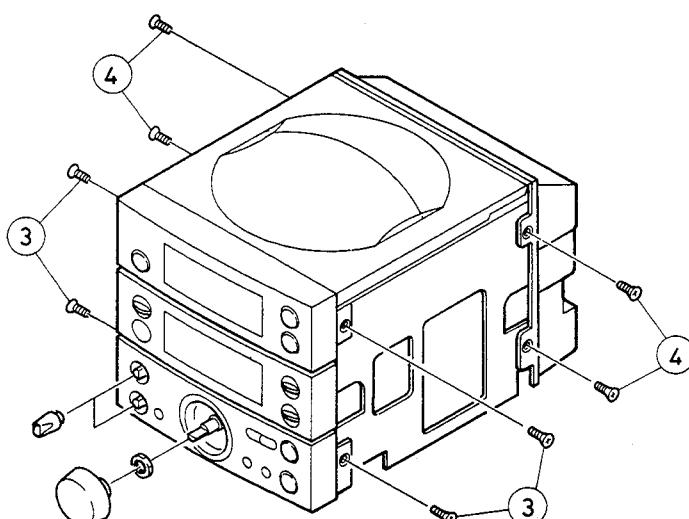

Fig. 7-2
2. Pull out three knobs of the sound volume control and the tone quality controls (treble and bass). (Fig. 7-2)
3. Remove four screws ③ retaining the front panel.
4. Remove four screws ④ retaining the rear panel.
### ■ Rear panel (Fig. 7-2)